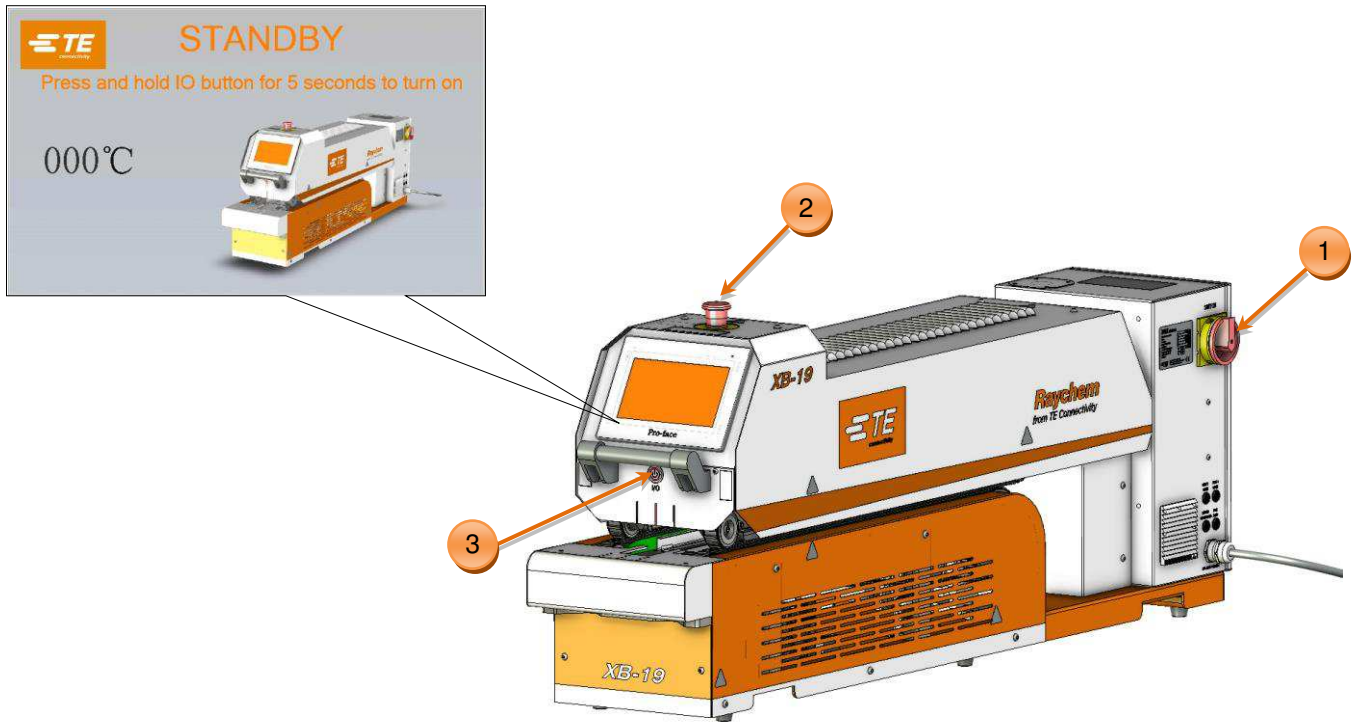

Fig.6 Power ON
- Touch panel will entry standby mode. See the top left picture in Fig.6 .